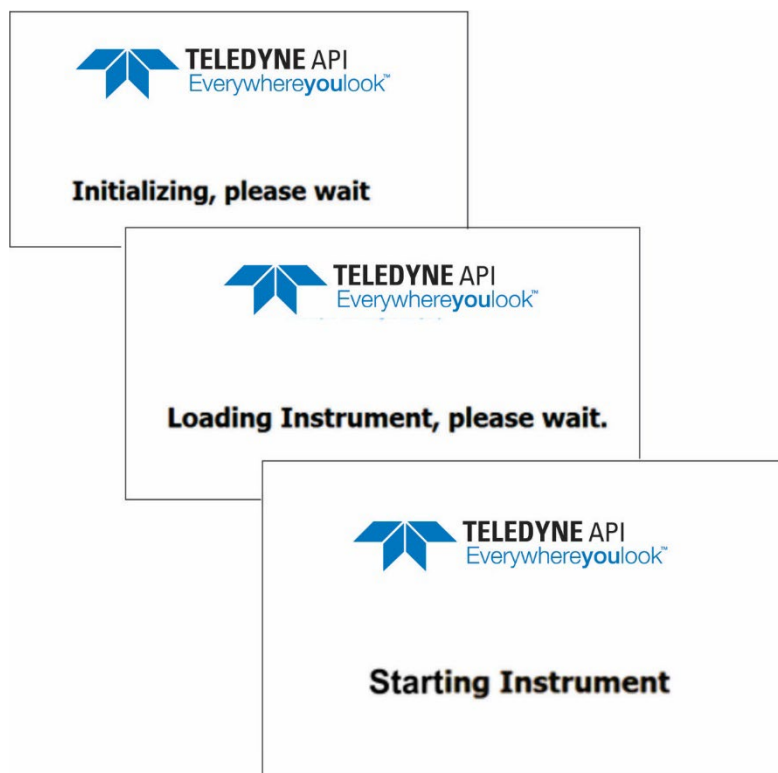
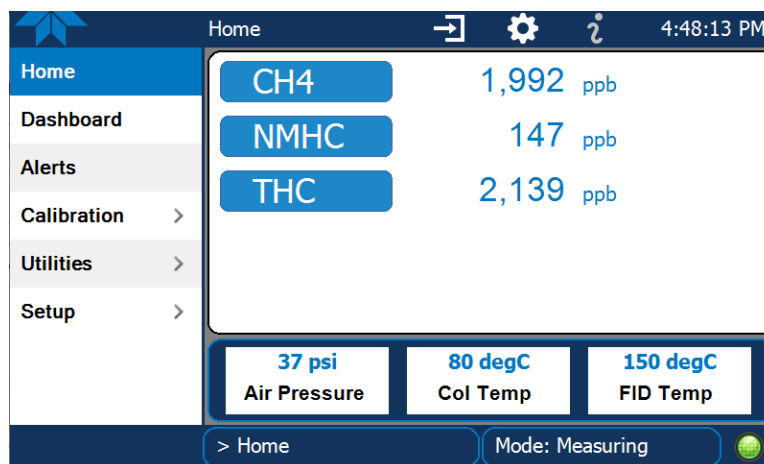

Figure 2-13. Status Screens at Startup
Figure 2-14. Home Page
Upon initial startup, a sequence of status screens (Figure 2-13) appear prior to the Home page (Figure 2-14).
- Configure the Homescreen (Section 2.5.7) to include those controls in the meters at the bottom of the page (Figure 2-14) and slide the desired control switch to ON.